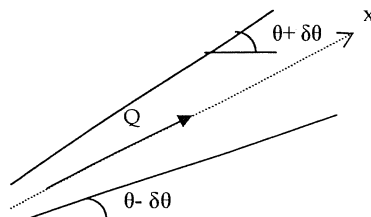

Figure 3
- 3) A fluid flows between two flat plates, as shown in Figure 3. The lower plate is at an angle $\theta - \delta\theta$ to the horizontal while the upper plate is at an angle $\theta + \delta\theta$ to the horizontal.